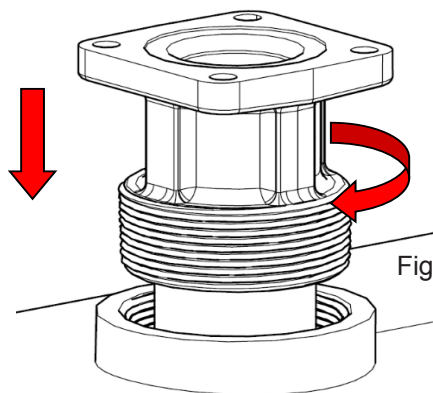

Figure 2
2. Screw the tank adapter (with suction pipe) into the tank bung; seal threads liquid tight with appropriate thread sealant (Figure 2).
2. Using a blunt object approximately 4" long (i.e. a deep well socket on an extension) inserted in the inlet opening, push the bypass valve firmly in place against the seat it seals on (Figure 2).
3. While holding the bypass valve firmly in place with the socket, insert needle nose pliers (at least 4" long) into the outlet opening and grasp the bypass valve retainer (Figure 2 & 3).
4. Push the bypass valve retainer down slightly and rotate it 90 degrees counter-clockwise. This will align the slot in the retainer with the key on the valve, allowing you to remove the retainer (Figure 2 & 3).